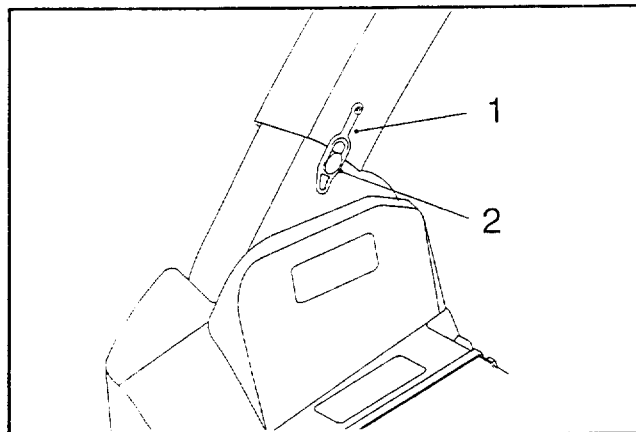

Figure 12
2. Hook the rubber latch onto the blower knob (Fig. 12).